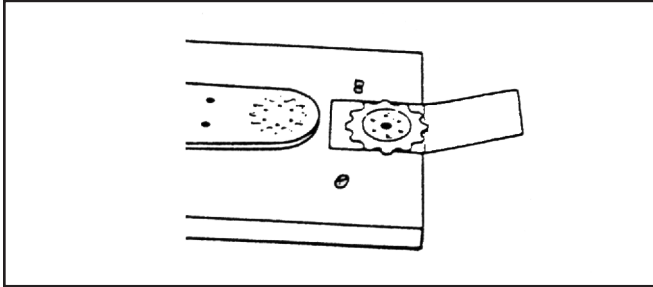

Figure 27. Preparing New Nose Sprocket
3. Remove the new nose sprocket package's clips and fold back the top portion of the insertion card being careful not to remove or disturb the components. See Figure 27.